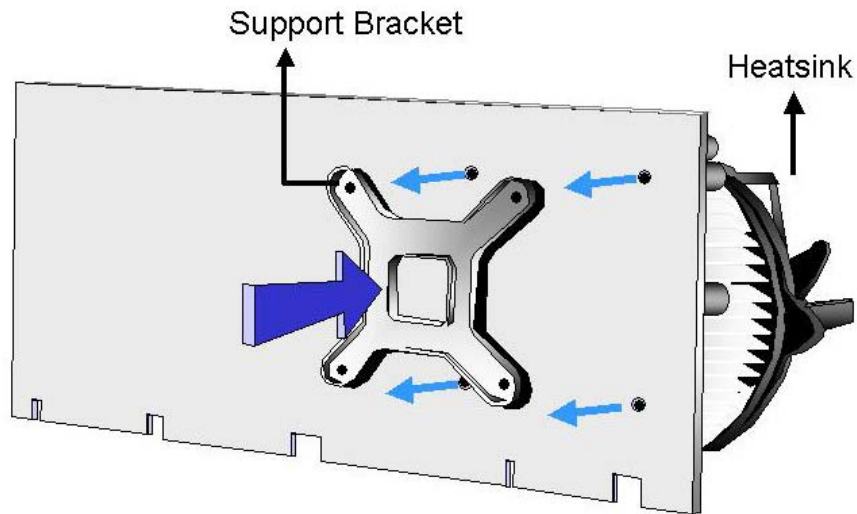

Figure 0-6: Securing the Heat sink to the PCB Board
- Step 4:** Secure the cooling kit. From the solder side of the PCB, align the support bracket to the screw threads on heat sink that were inserted through the PCB holes. (See **Figure 0-6**)